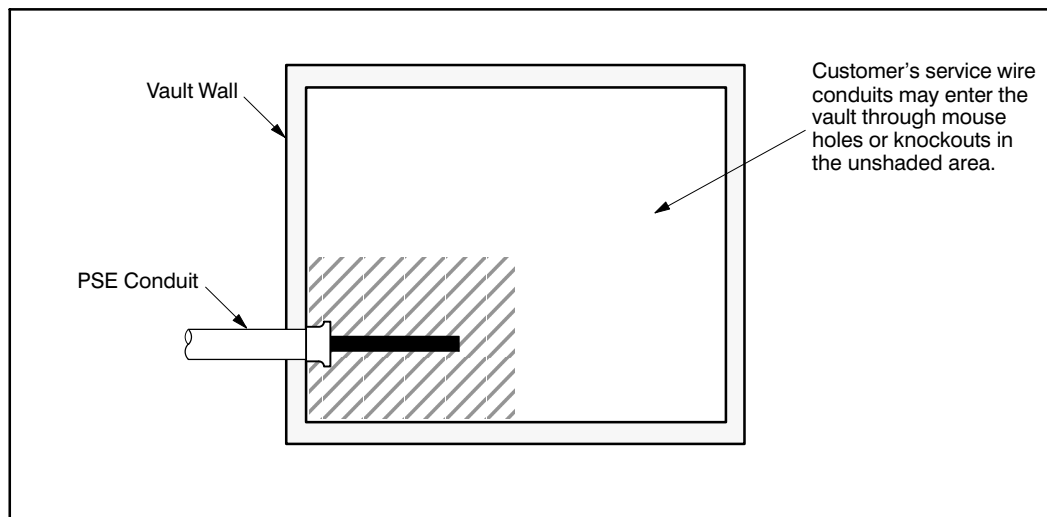

Figure 2 Location of customer conduit in PSE vaults
- Excavating the vault or handhole location. The most commonly used vault types and the required excavation dimensions are shown in *Figures 2–5*.